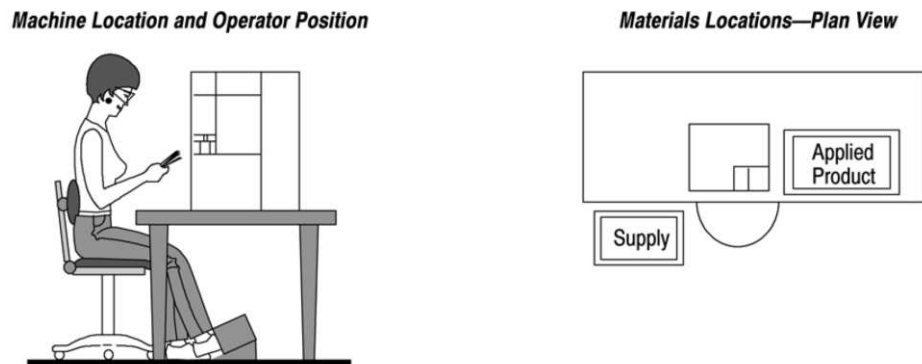

Figure 12
**3.3. Considerations Affecting Placement of Bench Machines** (Figure 12)
Figure 12 illustrates proper machine location, operator position, and recommended foot switch position.